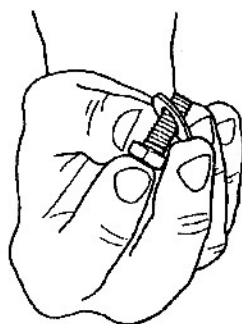

Fig. 5
9. Place a flat washer (28) on a bolt (25), as in Fig. 5.